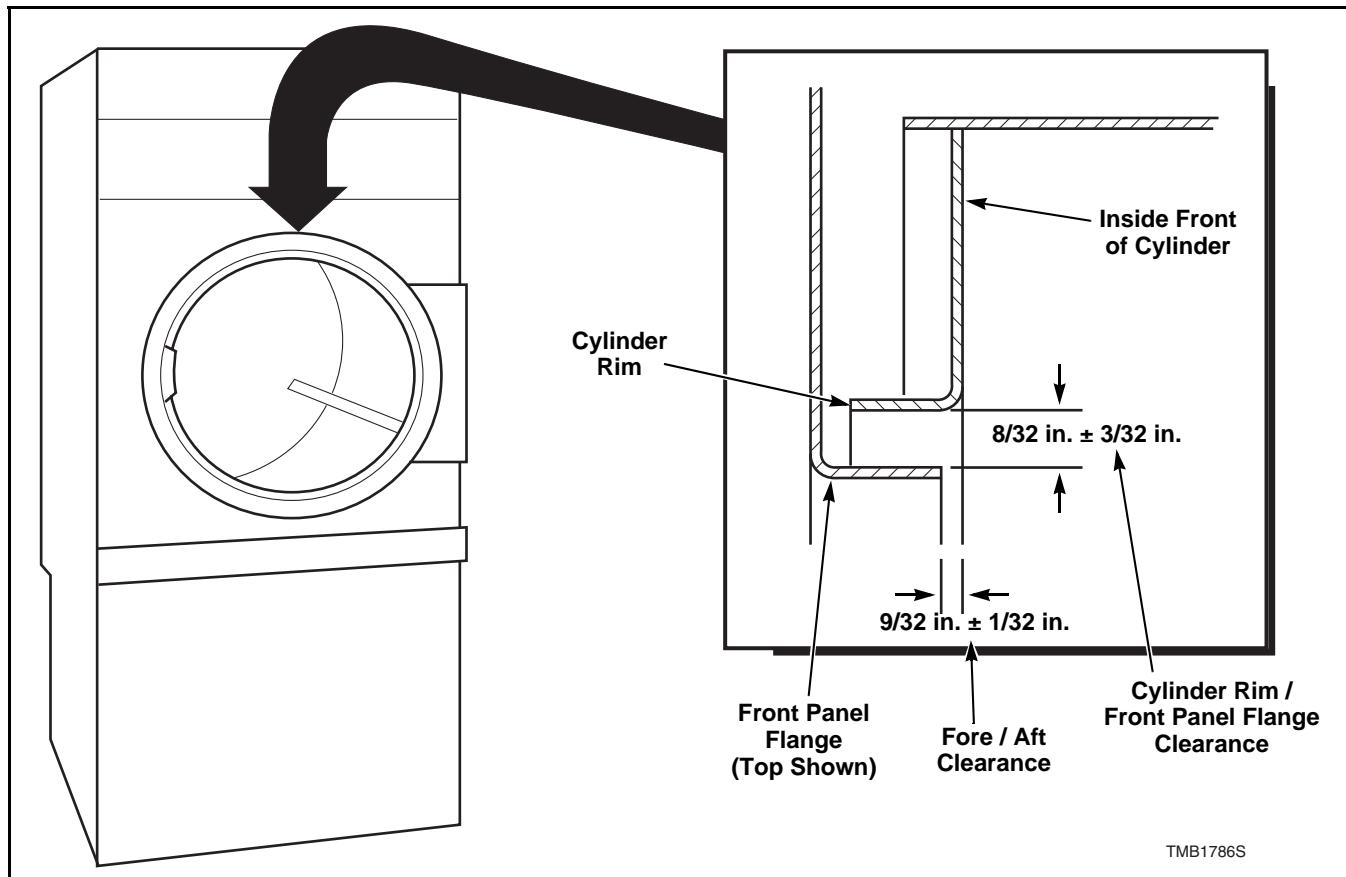

Figure 29
- b. Check the gap between the center of the front panel top flange and the cylinder rim. Proper adjustment is when the gap is $8/32$ inch $\pm 3/32$ inch. Refer to *Figure 29*. Perform steps “a” through “g” to adjust the cylinder rim/front panel flange clearance.
- c. Check the cylinder fore/aft clearance between the inside front of the cylinder and the edge of the front panel flange. Proper adjustment is when the gap is $9/32$ inch $\pm 1/32$ inch. Refer to *Figure 29*. Perform steps ‘h’ through ‘m’ to adjust the cylinder fore/aft clearance.